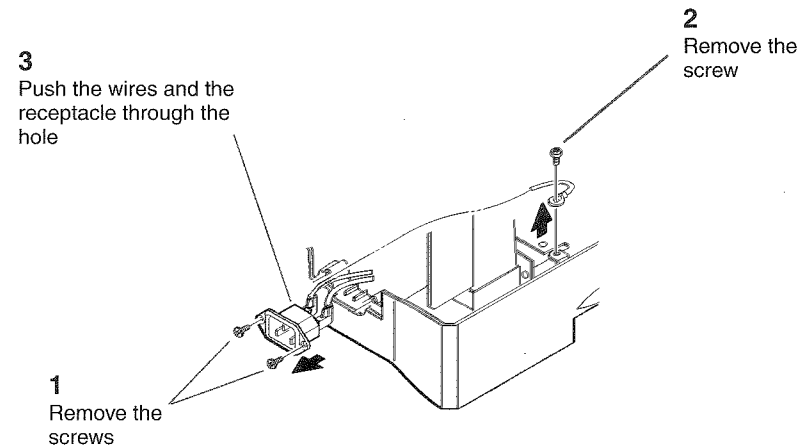

Figure 1 Moving the Power Receptacle
4. (Figure 1): Move the Power Receptacle from its position on the Base Assembly.